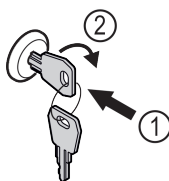

Fig. 179
- Insert the key. Fig. 179 (1)
- Turn the key clockwise by 90°. Fig. 179 (2)